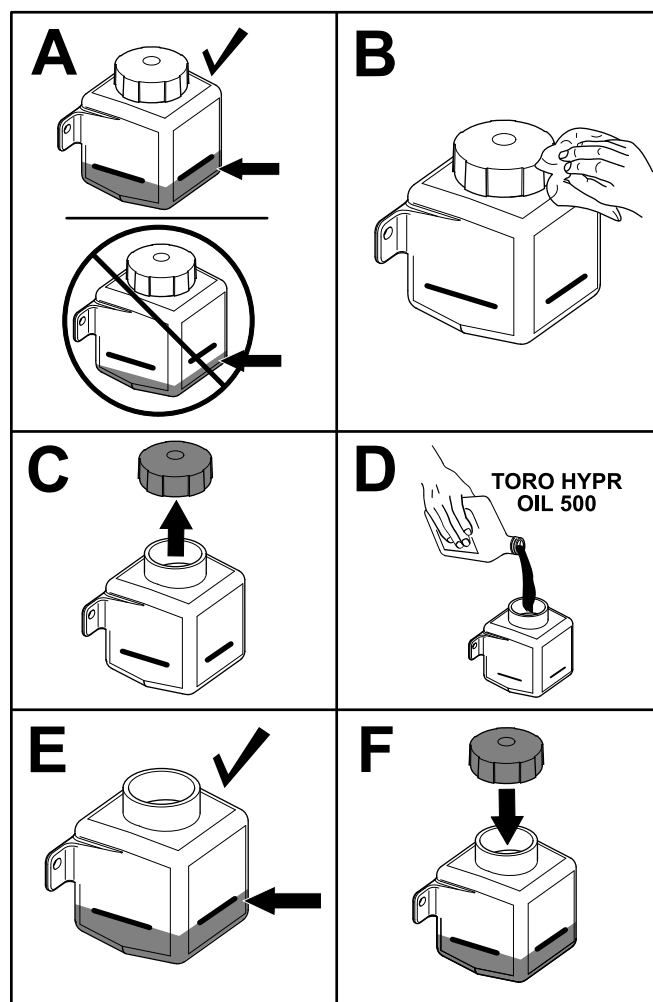

Figure 61
4. Check the fluid level on the side of the hydraulic tank (Figure 61). Continue the procedure if the level is below the cold fill level.
5. Clean the area around the cap of the hydraulic tank (Figure 61).
6. Remove the cap from the filler neck and add fluid to the reservoir until it reaches the cold fill level (Figure 61).
7. Install the cap on the tank (Figure 61).